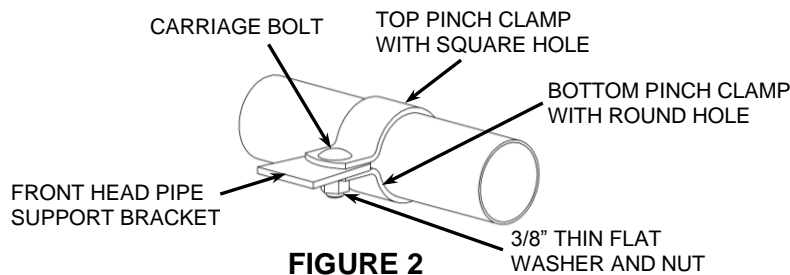

FIGURE 2
11. Position the supplied top and bottom pinch clamps over the front headpipe making sure the square hole on the top clamp is facing up and towards the inside. Position the pinch clamps over the support bracket so that the pinch clamp captures both sides of the bracket. See **FIGURE 2**. Insert the supplied 3/8" carriage bolt through the top pinch clamp, support bracket, and the bottom pinch clamp. Install the 3/8" thin flat washer and nut onto the bottom of the carriage bolt but **DO NOT TIGHTEN** at this time. Leave the nut loose so the headpipe can be adjusted.
17. Then fully tighten the flange nuts on the exhaust port studs, followed by the nut for the 3/8" carriage bolt on the front headpipe support clamp and the nut on the front headpipe support bracket. See **FIGURE 2**.